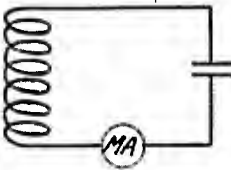

FIG. 4.
Figure 4 shows a hot wire milliammeter (MA) connected directly in series with the inductance and capacity of the wave meter. This milliammeter may have a range of 0 to 100 milliamperes, and not only will permit the determination of the resonance point but by its use resonance curves may be plotted, as this meter indicates the actual values of current flowing in the wave meter circuit as the circuits approach or depart from resonance. Where the resistance of the milliammeter is high it is impossible to connect it directly in series. The connection should be either that of Figure 5(a) in which the meter is associated inductively with the wave meter circuit, or that of Figure 5(b) in which the meter is associated conductively with the wave meter circuit.